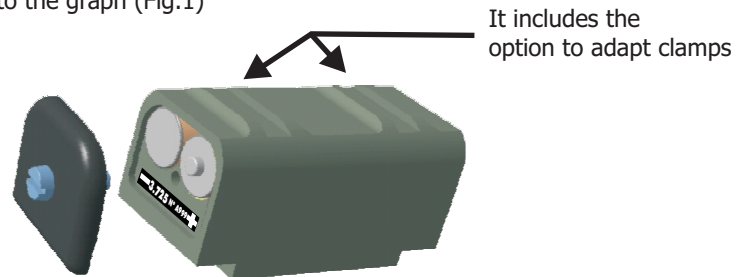

Fig.1. Battery polarity
The HOND transmitter is powered by two (2) AA alkaline batteries. Their polarity must be respected according to the graph (Fig.1)